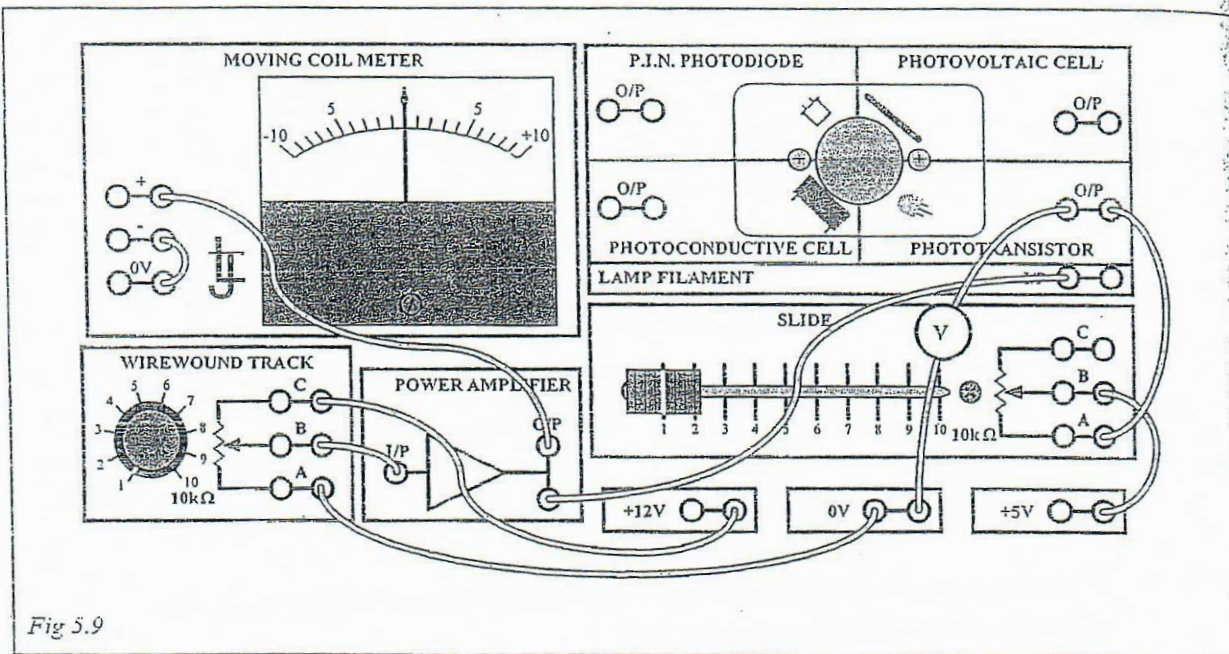

Fig 5.9
- ⊙ Connect the circuit as shown in Fig 5.9 and set the 10k Ω carbon slider control to minimum setting (1) so that the Phototransistor load resistance is approximately 1k Ω (protection resistor only).